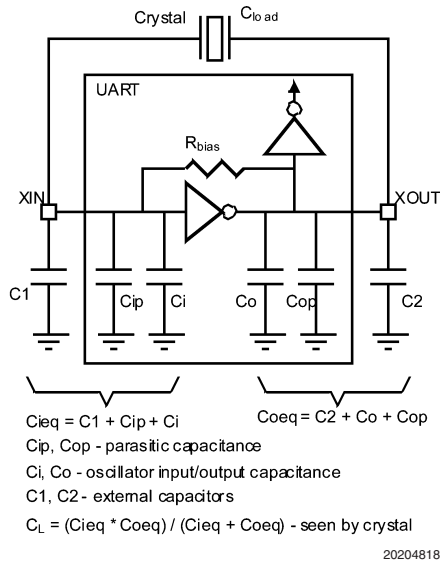

FIGURE 16. Crystal Oscillator Circuit
4. The load capacitance of the crystal should match the load capacitance of the oscillator circuitry seen by the crystal. Under the AC conditions, the oscillator load capacitance is a lump sum of parasitic capacitance and external capacitors. The capacitances connecting to oscillator input and output are in series seen by the crystal. (Figure 16.) External capacitors, C1 and C2, are not required to be very accurate. The best practice to follow crystal manufacturer's recommendation for the load capacitance value.